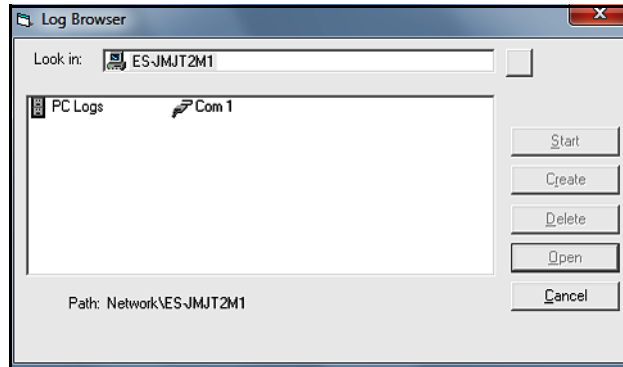

Figure 72: Communication Port Selection
- a. Double-click *computer name* to move to the network level shown in *Figure 72* below.